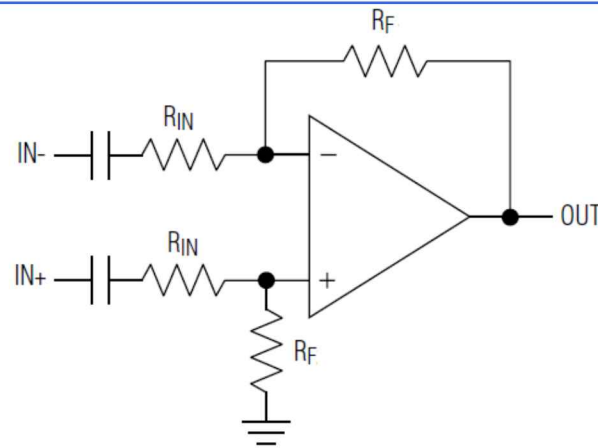

Fig. 2 Differential Input Configuration
The IC can be configured as differential or single-ended input amplifiers (Figures 2 and 3), making it compatible with all codecs. A differential input offers improved noise immunity over a single-ended input. In devices such as cellular phones, high-frequency signals from the RF transmitter can couple into the amplifier's input traces. The signals appear at the amplifier's inputs as common-mode noise. A differential input amplifier amplifies the difference of the two inputs while signals common to both inputs are cancelled. The gain of the HT97220(L) is set by: